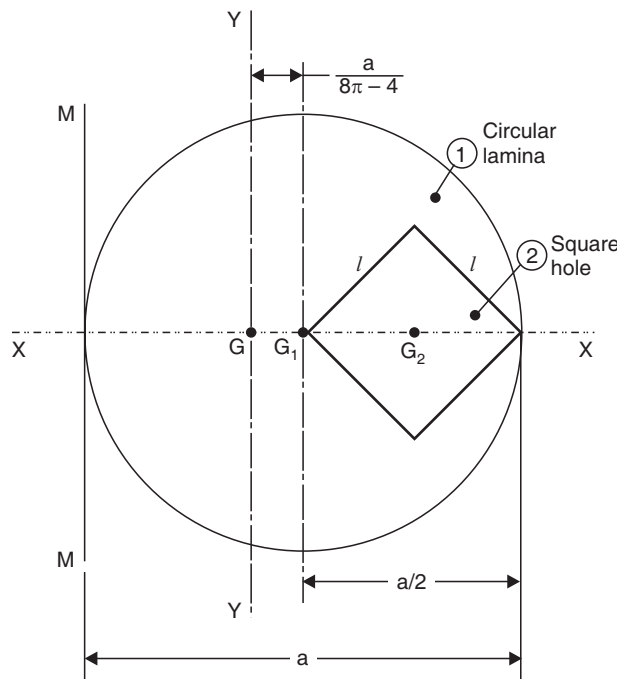

Fig. 4.27
**Sol.** Refer to Fig. 4.27. Since, the remaining body is symmetrical about  $XX$ -axis.